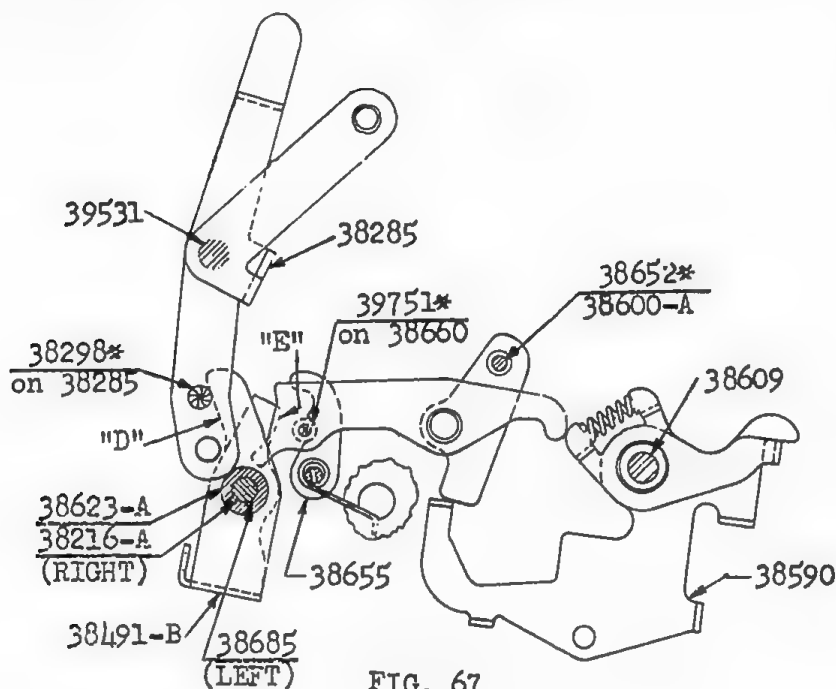

FIG. 67
1. (Fig. 67). The Stop Transfer Bail-38285 has a Stud-38298* which contacts surface "D" on the Lower Stop Bail-38491-B. Since the Stud-39751* on Latch-38660 is in the lower notch of Detent-38655 during multiplication, it can be contacted by the left arm "E" of 38491B. This releases the Terminating Lever-38590 in the same manner as the termination of multiplication. (See Section VI-Para. C-1 on Page 1278).
2. (Fig. 67). If the carriage is to be brought back to tab position after X-Key depression without a